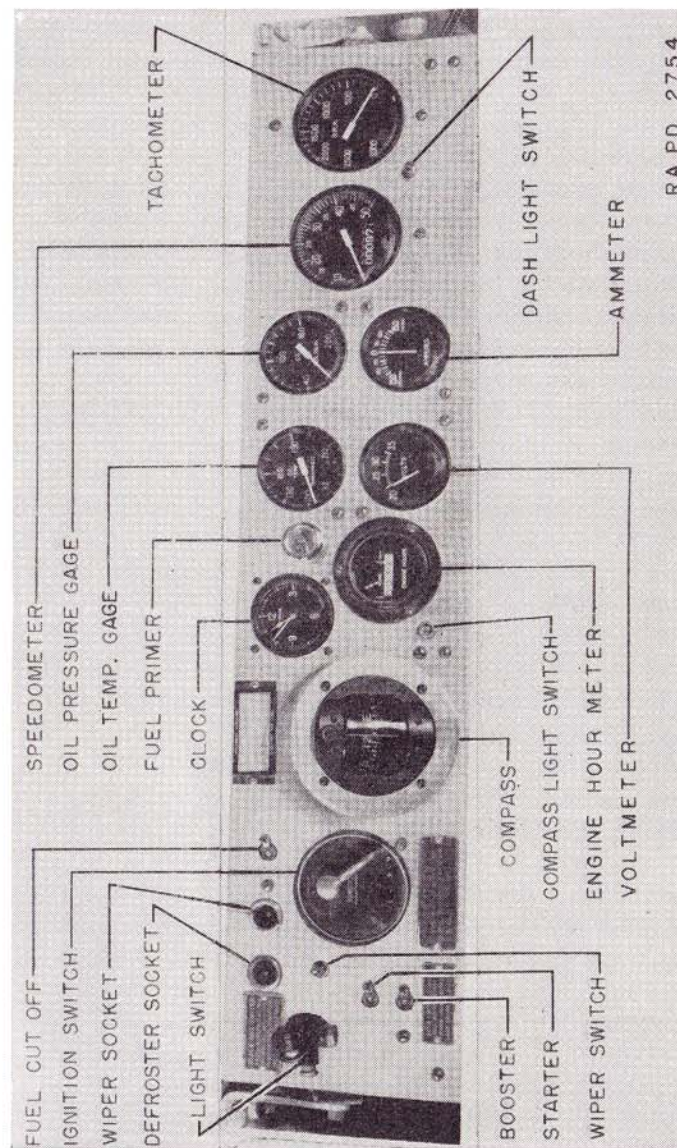

FIGURE 8.—Instrument panel.
*a.* Give the engine several strokes of the priming pump located on the instrument panel (fig. 8). Excessive priming should be avoided, since it has a tendency to wash lubricant off the cylinder walls and thus cause excessive wear and damage. Do not prime through exhaust ports or spark plug holes with raw gasoline. Do not prime a hot motor.
*c.* Operate the starter. Turn the ignition switch to the "both" position and press the booster coil switch located on the instrument panel (fig. 8).
- (1) Check all instruments to see that they are functioning and showing the proper readings.
- (2) Check for loose parts.